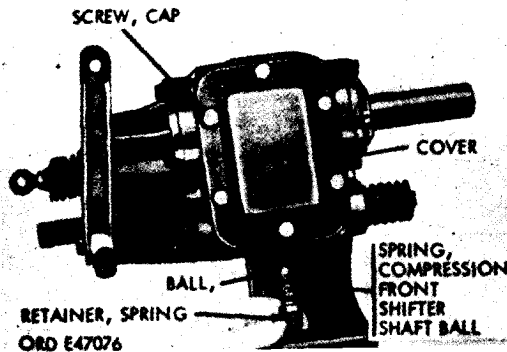

Figure 286. Removing front shifter shaft ball and spring retainer
- (1) Remove front shifter shaft.
- (a) Remove six cap screws and lock-washers from cover (fig. 286). Remove cover and cover gasket and discard gasket. Remove spring retainer, front shifter-shaft-ball compression spring, and ball from case.